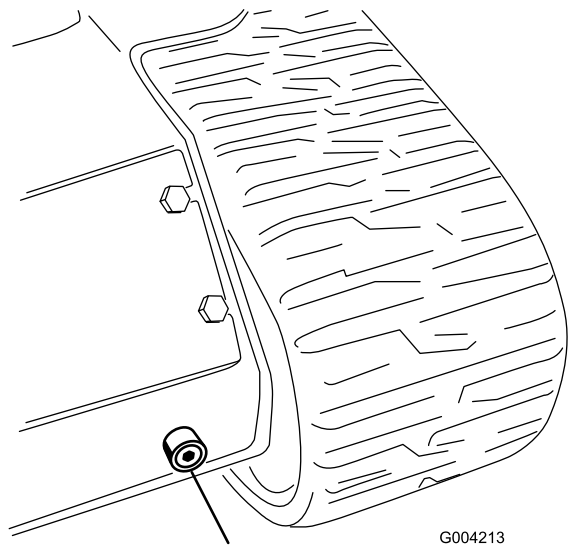

Figure 56
6. Place a large drain pan (capable of holding 15 US gallons) under the drain plug on the front of the traction unit (Figure 56).
7. Remove the drain plug and allow the oil to drain into the pan (Figure 56).